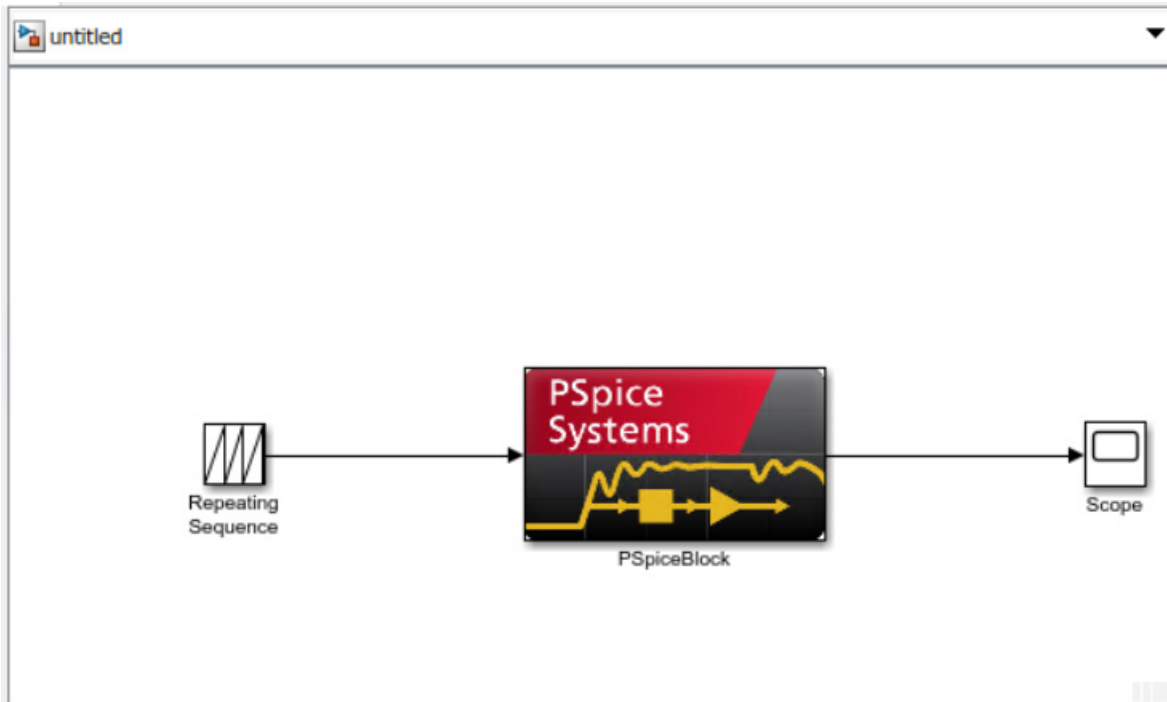

Figure 7-3 Block diagram using Repeating Sequence/Source and Scope/Sinks
8. Create a block diagram. In this example, create a block diagram as shown in Figure 7-3, using the blocks, Repeating Sequence/Sources and Scope/Sinks.